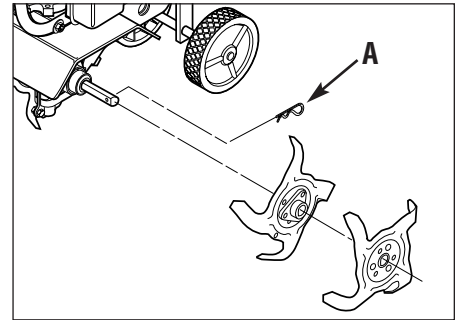

Figure 16: Remove hitch pin (A) to take off tines.
IMPORTANT: The hitch pin (A, Figure 16) is under spring tension – wear gloves to protect your fingers when removing or replacing the hitch pin.
2. Remove the hitch pin (A, Figure 16).
2. Remove the hitch pin (A, Figure 16) from both sides of the unit. Remove both outer tine sections. Mark each section as a left or right side tine and whether it is an inner or outer section.
2. Remove the hitch pin (A, Figure 16) from both sides of the unit. Remove the old tine sections and replace them with new tine sections. Refer to Figure 16 and the tine pattern shown in the *Parts List* for tine pattern details. Insert the hitch pins through the tine shafts.